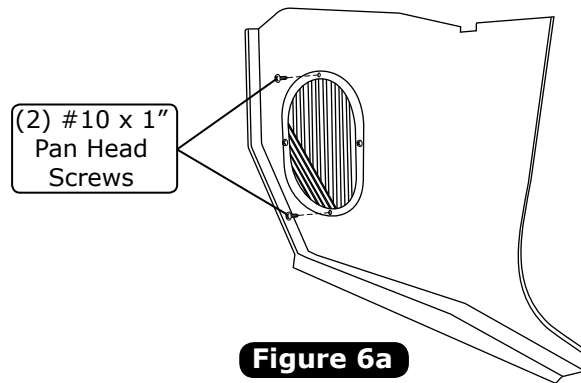

Figure 6a
2. Install the passenger side kick panel using (2) OEM screws as shown in Figure 6a, below.